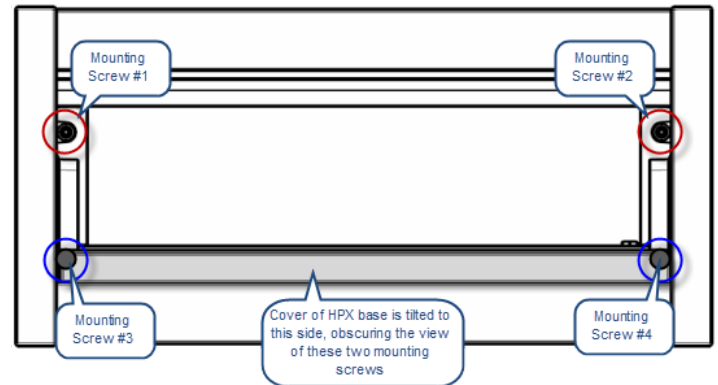

FIG. 2 HPX BASE ASSEMBLY (SHOWN MOUNTED) - MOUNTING SCREWS LOCATIONS
2. Loosen the four mounting screws (located inside and at each end of the HPX base assembly), in order to rotate the retaining tabs from under the mounting surface. Note that when the cover of the HPX base is open, only two of these screws are visible. To access the other two mounting screws, tip the cover over to the opposite open position (see FIG. 2).